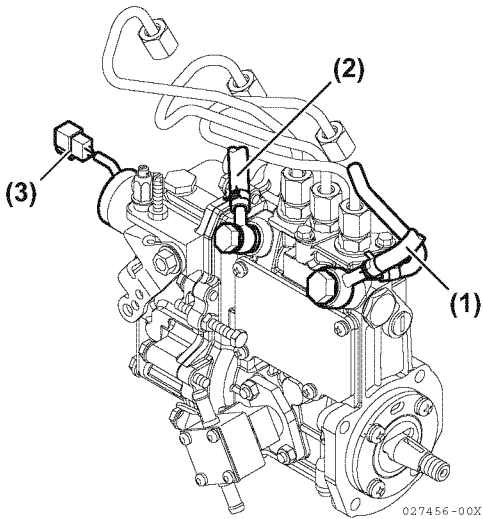

Figure 7-9
8. Disconnect the fuel return lines from the fitting on the fuel injection pump (**Figure 7-9, (1)**). Plug the open ends of the lines to minimize leakage and prevent contamination.
9. Remove the fuel supply line (Figure 7-9, (2)) from the fitting on the fuel injection pump.
12. Separate the stop solenoid wiring connector (Figure 7-9, (3)).